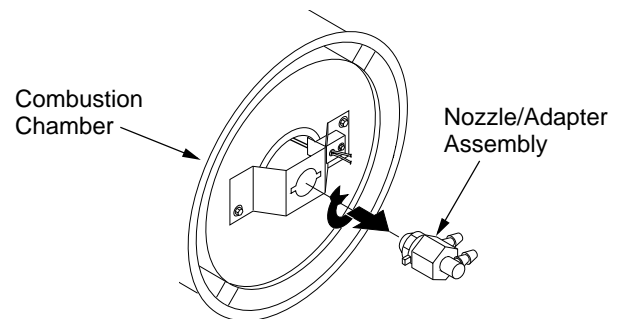

Figure 20 - Removing Nozzle/Adapter Assembly
4. Turn nozzle assembly 1/4 turn to left and pull toward motor to remove (see Figure 20).
10. Attach nozzle assembly to burner strap (see Figure 20).